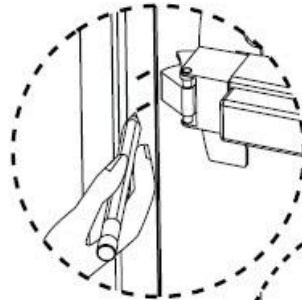

Figure 1
1. Mark the end position of the exit device's latchbolt on the doorframe. (Take off the original strike if present). See Figure 1.